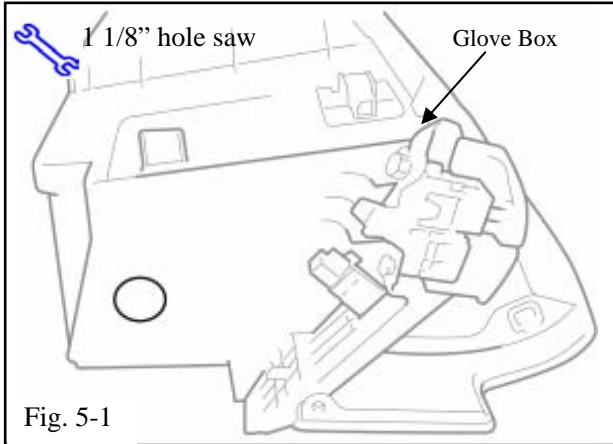

Fig. 5-1
- (a) Make a round hole through which the cable can pass at the location on the glove box shown in the illustration. (Fig. 5-1 & 5-2)
- (1) Hole saw is 1 1/8" (29 mm).
- (2) De-bur drilled hole.
- (3) Clean shavings from glove box after drilling.